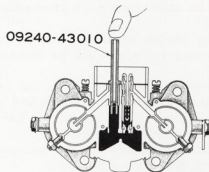

Fig.4-18 Checking Fuel Level G0324
c. Insert the Float Level Gauge 09240-43010 into the main jet holder fitting hole as shown in figure 4-18, and check the fuel level. The fuel level should be within the red lines which are scribed on the Float Level Gauge 09240-43010.